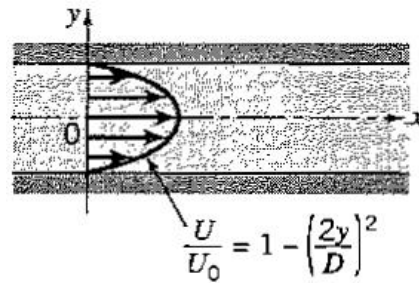

Figure P8.40
8.40 A fully developed two-dimensional duct flow of width W and height D has a parabolic velocity profile, as shown in Figure P8.40.